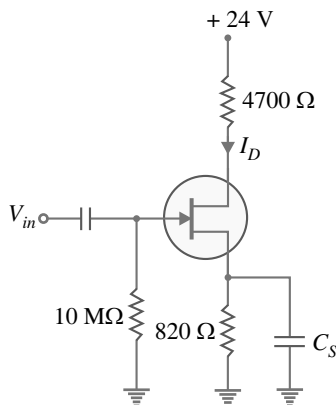

Fig. 17.73
3. In the *JFET* circuit shown in Fig. 17.73 if  $I_D = 1.9$  mA, find  $V_{GS}$  and  $V_{DS}$ .